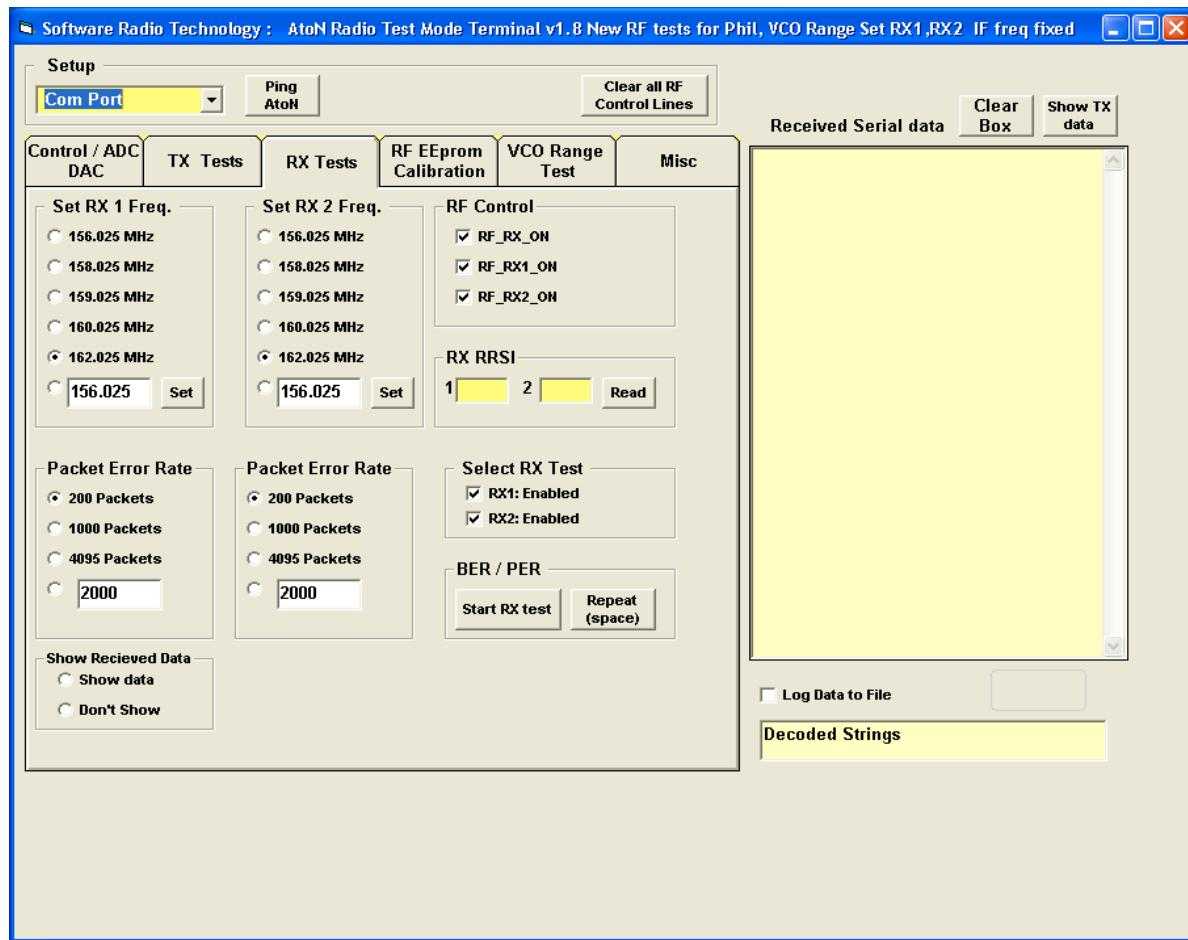

Figure 8A
2. Click on the “**RX Test**” tab and configure the “Radio Test Mode” program for AIS 2 (162.025 MHz.) by checking the appropriate fields. (See Figure 8A). Then select “**Start Rx Tests**”. After all configuration parameters are updated on the Radio Test Mode software screen, push the ENTER button on the PMG1 to send the 200 packets to the UUT. For the following tests.